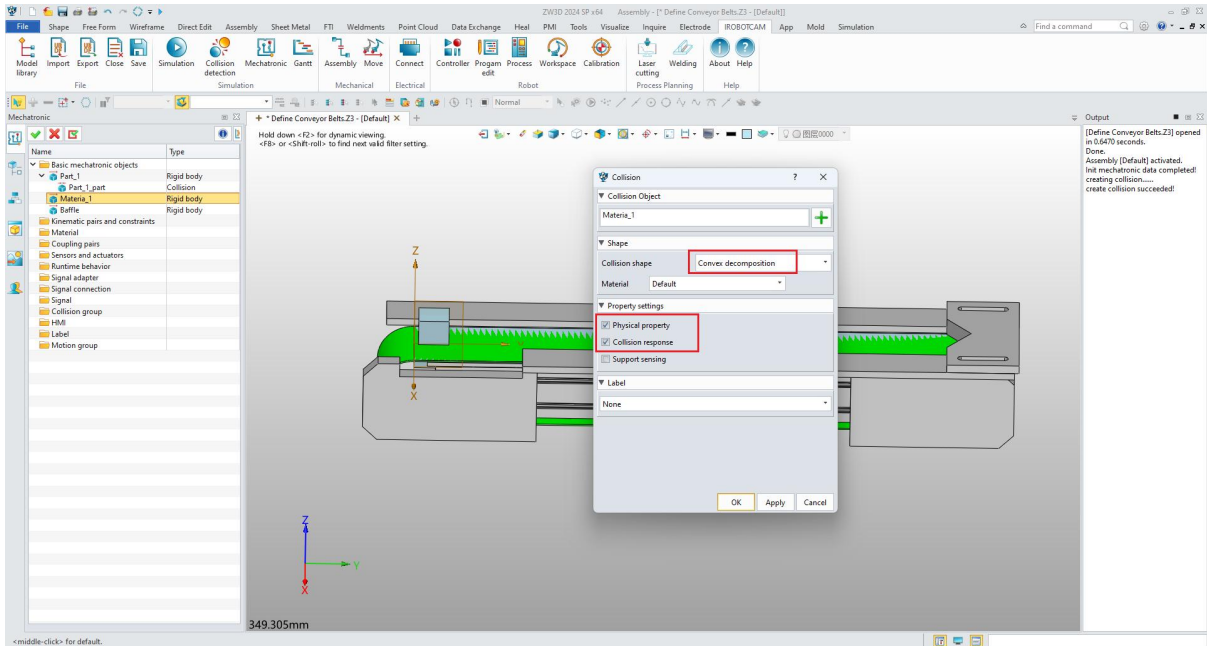

Figure 6-9: Add Small Wooden Collision
- Select "physical properties", "collision response", "support sensing" for property settings, and "default recognition" for material. (Figure 6-9)